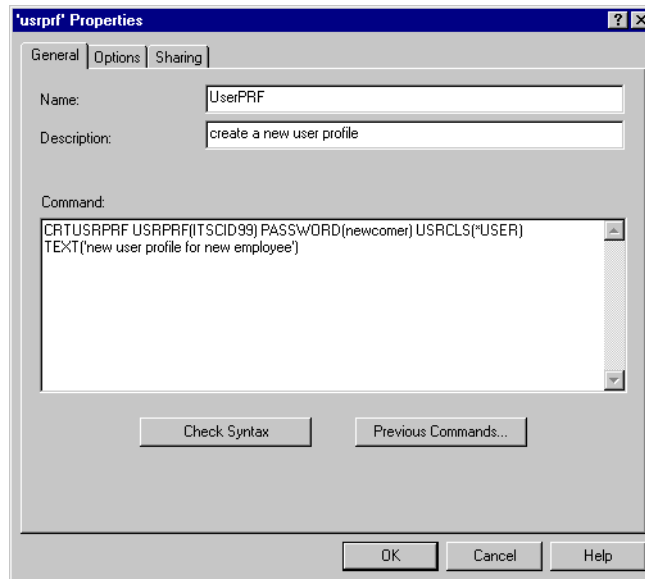

Figure 32. New user profile command
- When your company has a new employee and you need a user profile for them on all endpoint systems, you can use the running command function to create the user profile. Enter `CRTUSRPRF` in the **Command** field. Figure 32 shows a sample command definition.